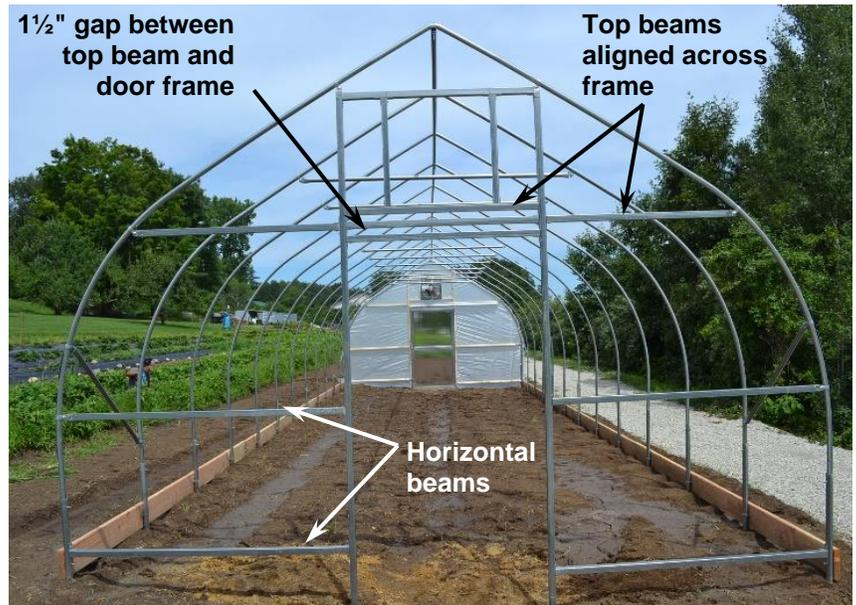
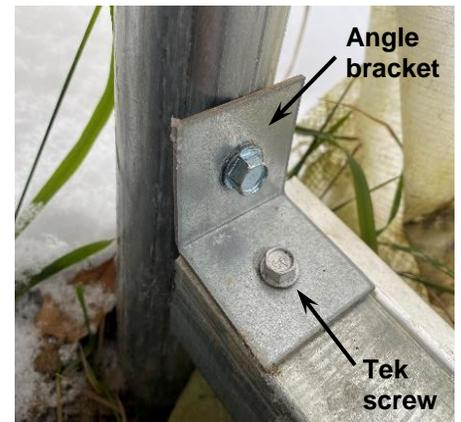

Figure 3: Steel beam placement for end wall framing.
Figure 4: Securing bottom beam to end wall frame.
7. Install two horizontal beams on either side of the door frame so they are in-line with the last horizontal stud you placed (see figure 3). This is especially important if you are installing the track for the #6792 Sliding Door Kit. Secure them to the door frame using 1½" angle brackets on both the top and the bottom of the horizontal beam plus 1" Tek screws; then secure them to the end wall bow as you did with the vertical beams using end wall brackets, brace bands, 1½" carriage bolts, and hex nuts.
8. Install another set of horizontal beams approximately halfway up the door frame, and another towards the bottom (see figure 3). Each bottom horizontal stud must be attached to the end wall bow using a 1½" angle bracket and 1" Tek screws (see figure 4). Level each horizontal beam before securing in place.